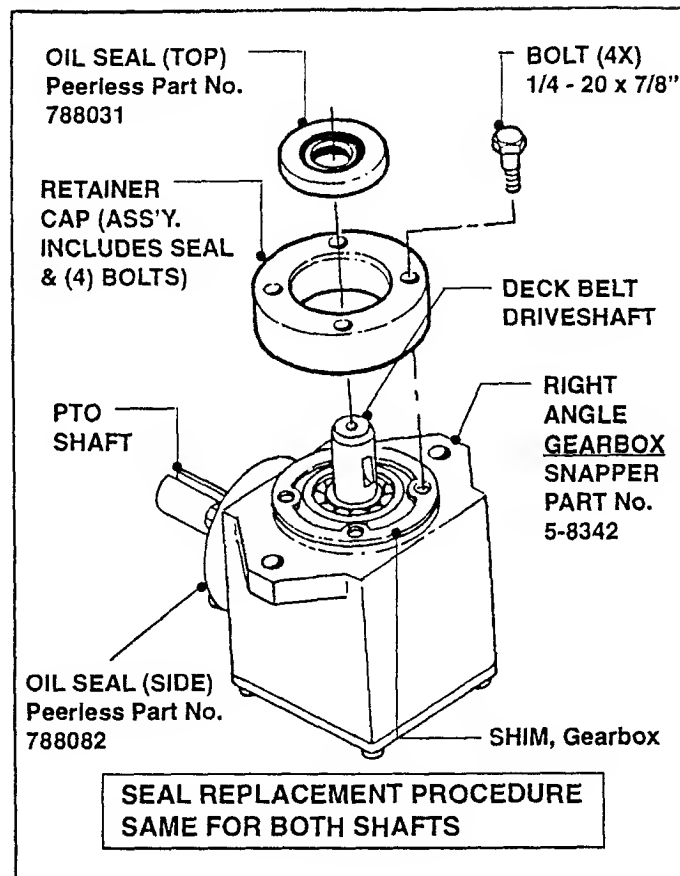

FIGURE 8.6
4. Remove damaged seal(s) and replace as illustrated in Figure 8.6.